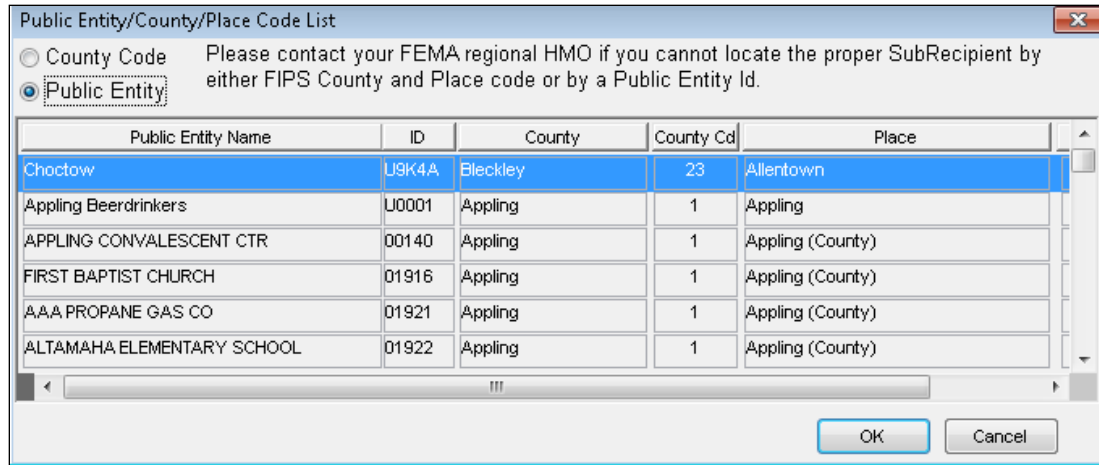

Figure 6-10: Public Entity List
5. If the new Subrecipient is a public entity (e.g., a building within a town within a county), click the Public Entity radio button. A list of Public Entity Names, with their ID, County/Place Code and Name is displayed (Figure 6-10).